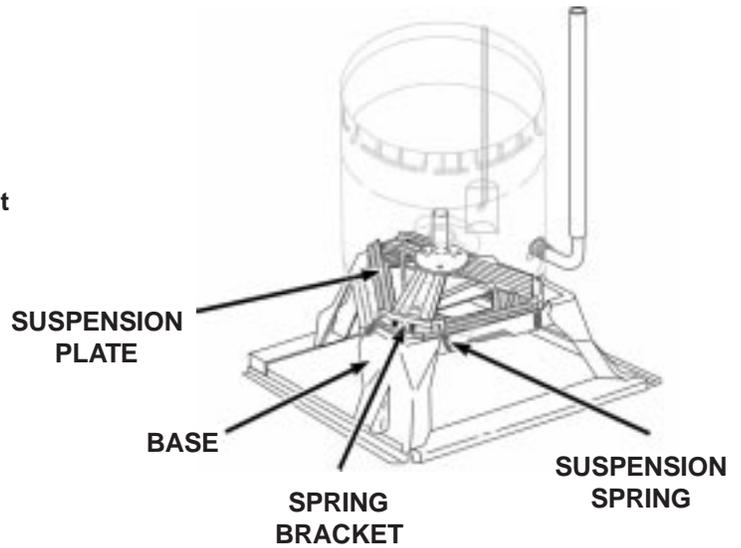

Fig. 3-17
- The tub assembly is secured to the tub support at three locations. There are two screws, a suspension spring and a locating tab at each of these locations. (Fig. 3-17)